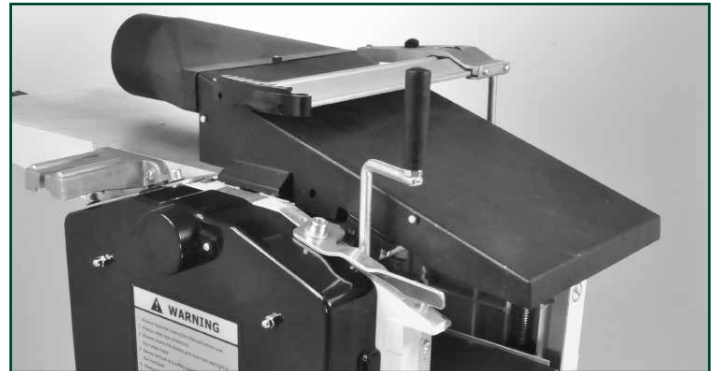

FIG. 42
2. Swing the chip ejection hood up and over the cutterhead and secure it in place by lowering the blade guard onto it for added security. FIG. 42.